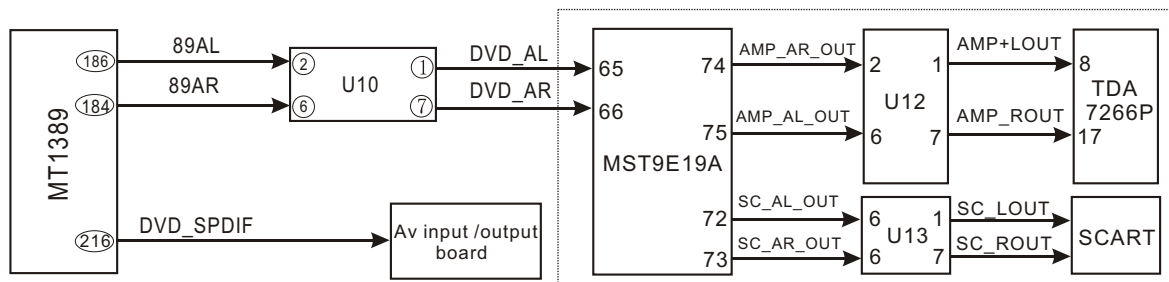

Figure 3.1.1.1 Audio signal flow chart block diagram
1. Audio signal process block diagram is shown in the figure 3.1.1.1: